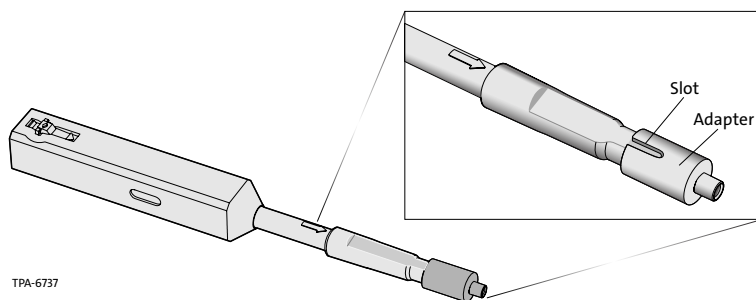

Figure 2
Step 1: If not already installed, place the small round adapter on the end of the tool (Figure 2). Note the slot on top of the adapter.